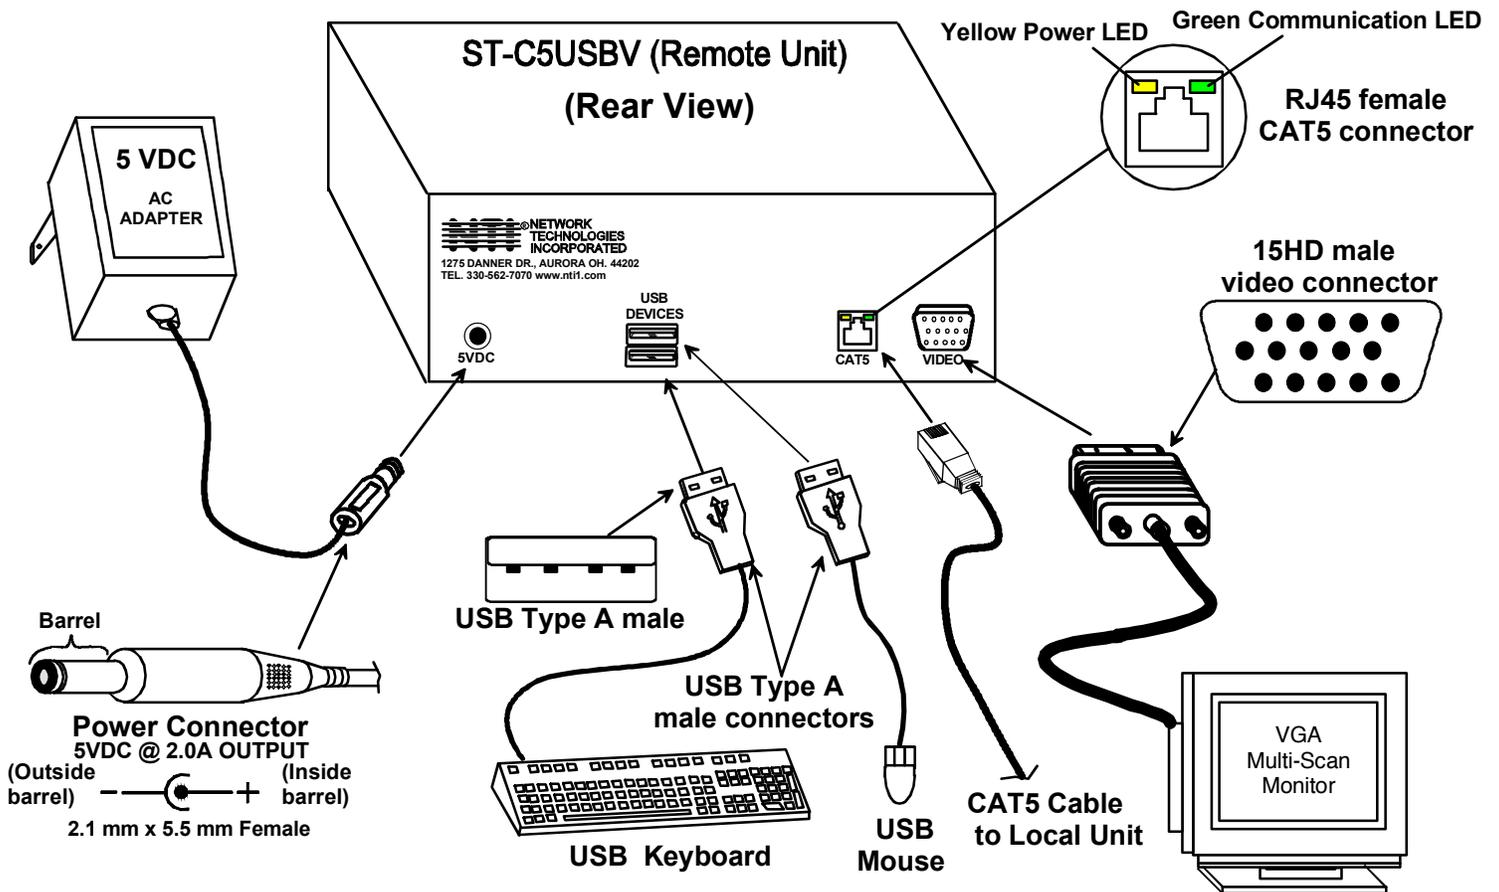

Figure 4- Connect the Monitor and Devices to the Remote Unit
2. Connect the monitor cable to the 15HD female VIDEO port on the back of the Remote Unit. (See Fig. 4)
2. Connect one AC adapter power connector to the 5VDC port on the back of the Remote Unit. (AC adapter shown in Fig. 4)
To access the Setup Menu, simultaneously press the left and right <Shift> keys on the keyboard. The menu in Figure 4 will appear.